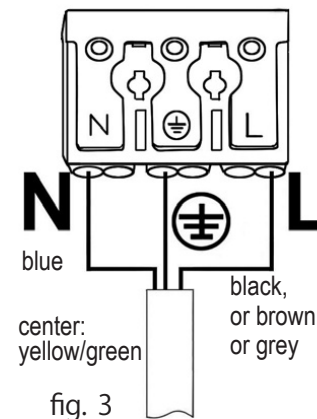

fig. 3
- fig. 3:** Prepare the current-less cable in according to statutory regulations. Connect the wires according the marks.